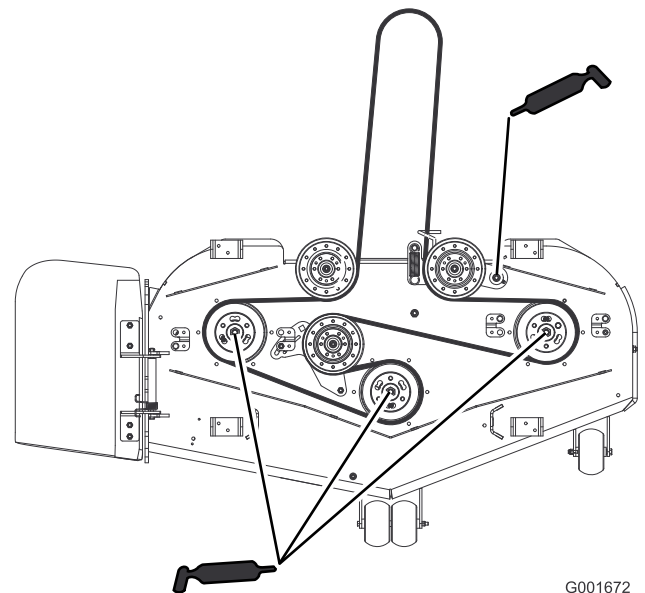

Figure 31
4. Grease the three spindle bearings under the pulleys until grease comes out the lower seals (Figure 31).
5. Grease the idler arm on the mower deck (Figure 31).